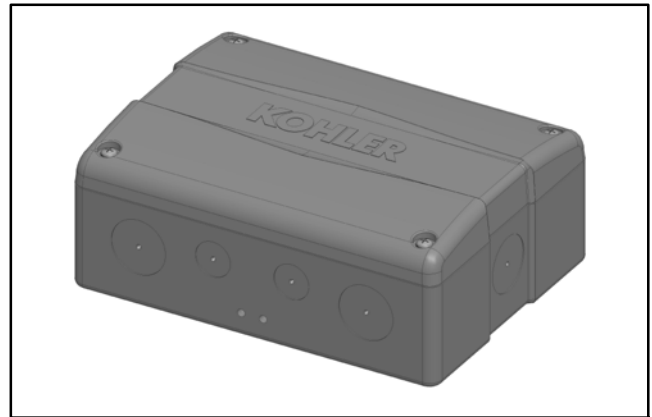

Figure 2-13 Kohler Power Relay Module
Kohler® power relay modules include one power relay mounted inside a NEMA type 3R enclosure. Connect up to four (4) power relay modules to the load shed kit. See Figure 2-13 for an illustration of a power relay module.